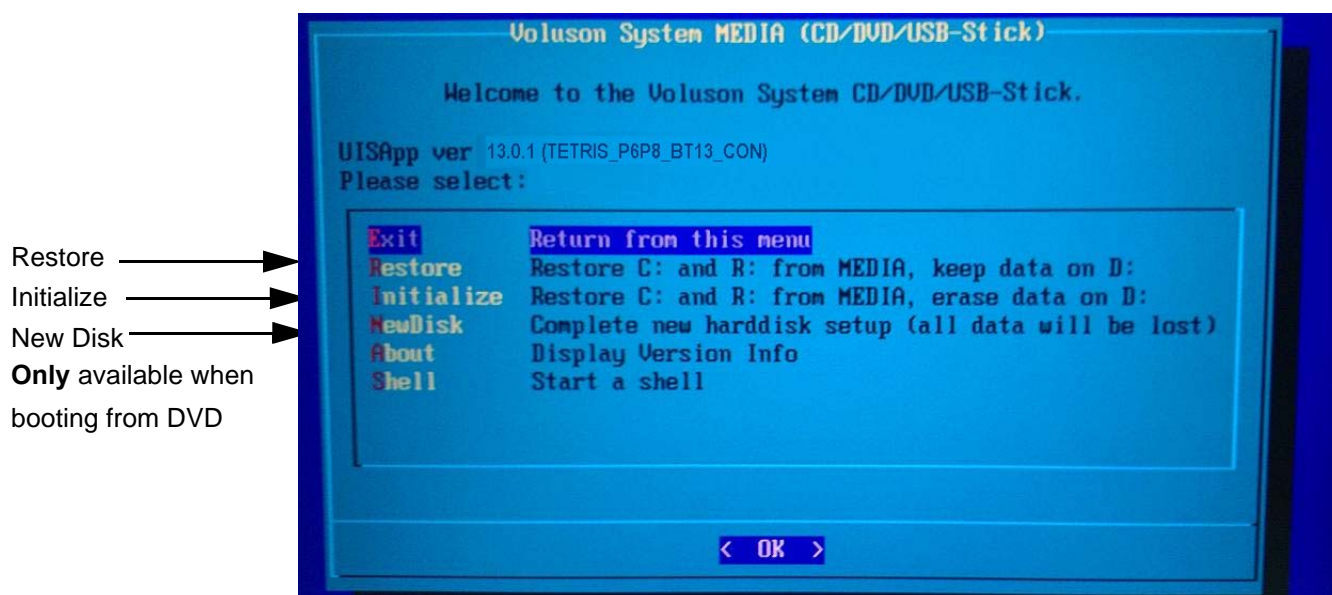

Figure 5-39 Media Menu
- 1.) Select [Restore] in the displayed “Media Menu” (see: Figure 5-39 above).